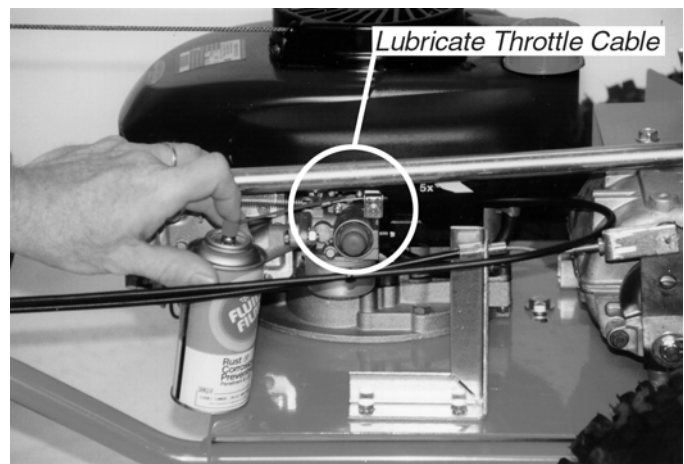

Figure 26
5. Lubricate the throttle cable with FLUID FILM™ or similar lubricant (Figure 26). The throttle cable is located on the right side of the machine, just above the primer bulb.